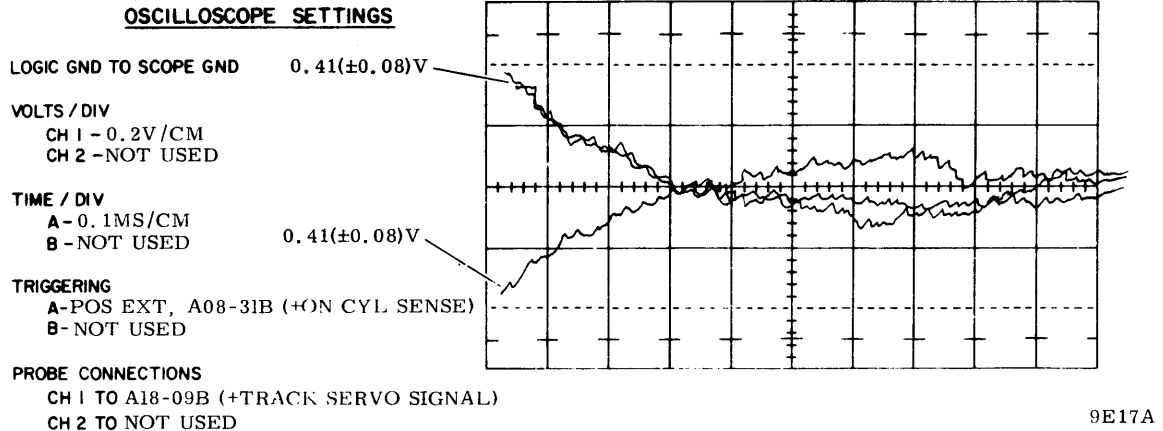

Figure 5-5. On Cylinder Switching Level - Waveform I
2. Set up and connect oscilloscope as shown on figure 5-5.
3. Command continuous 2-track seeks between cylinder 000 to 002 (001).
4. Check that resulting waveforms agree with those shown on figure 5-5.